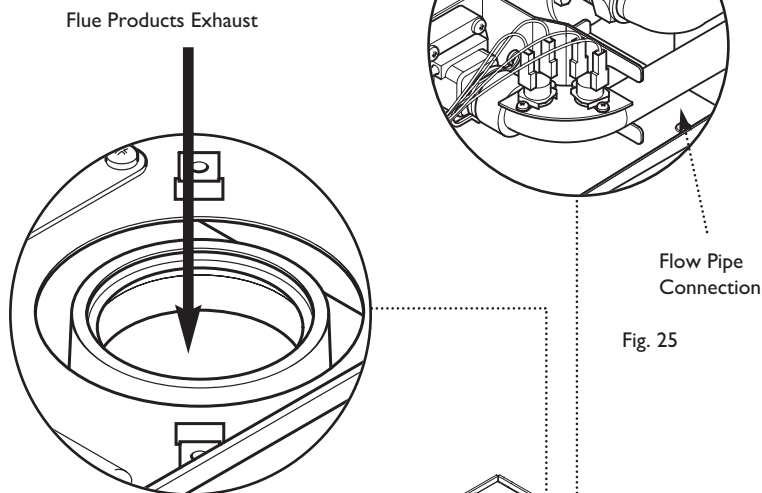

Fig. 25a
**NOTE:** To ensure the correct operation and integrity of the condensate drainage system - Carefully pour approximately 1 cupful (250ml) of water into the flue products exhaust, at the top of the heat exchanger (Fig. 25a) to ensure a seal is made in the trap.